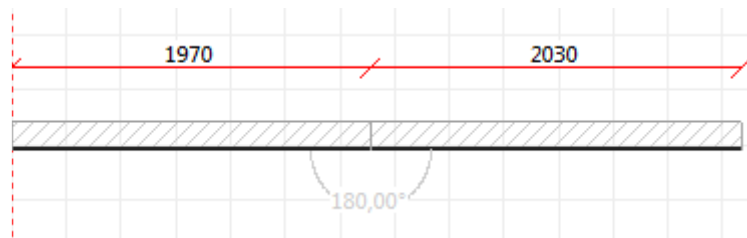

Figure 5.9: Split wall
- ✧ Split: it enables to split the wall in two parts at the specified point, see figure 5.9;